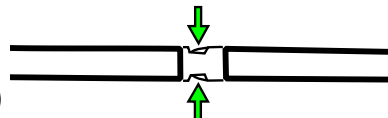

Figure 2.12
- To open the belt, squeeze both protruding buttons at the same time. The belt will open. (Fig 2.12)